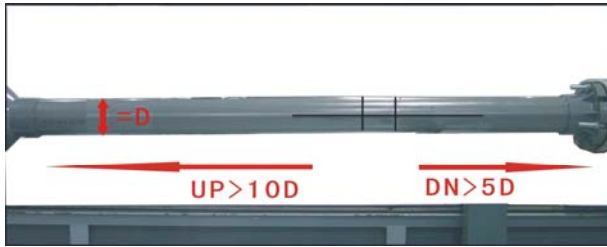
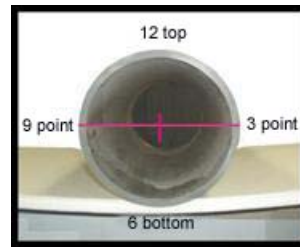

Figure 3. Upstream and Downstream Pipe Diameter Example
Figure 4. Optimal Transducer Installation Location
3. Select the measurement site on a straight section of pipe with 10D (10 pipe diameters) upstream and 5D downstream (See Figure 3). The transducers are usually installed at the 3 o'clock and 9 o'clock positions on the pipe. Avoid installation at 6 o'clock and 12 o'clock positions (See Figure 4).